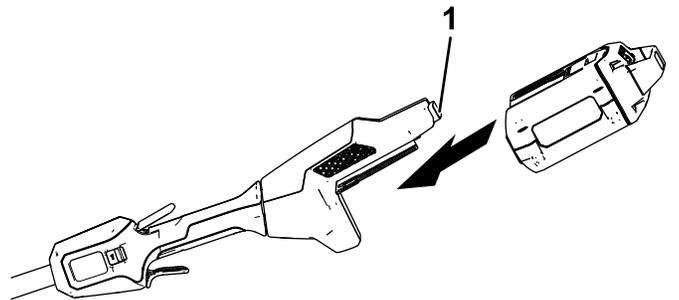

Figure 6
2. Align the cavity in the battery pack with the tongue on the handle housing (Figure 6).
3. Push the battery pack into the handle until the battery locks into the latch (Figure 6).